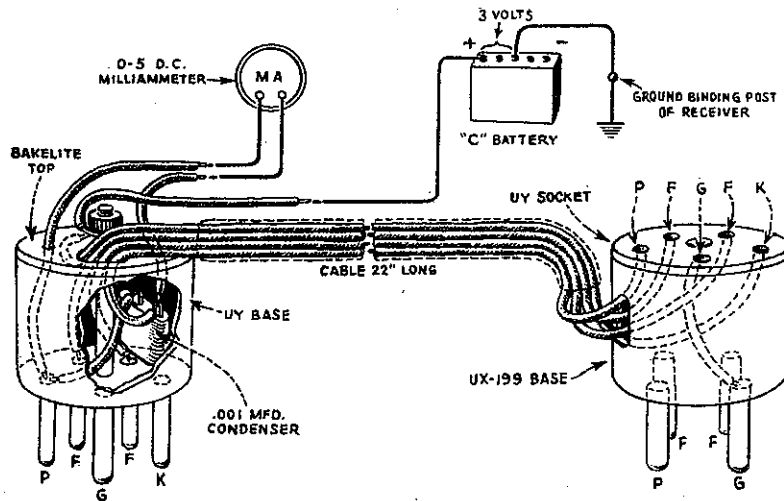
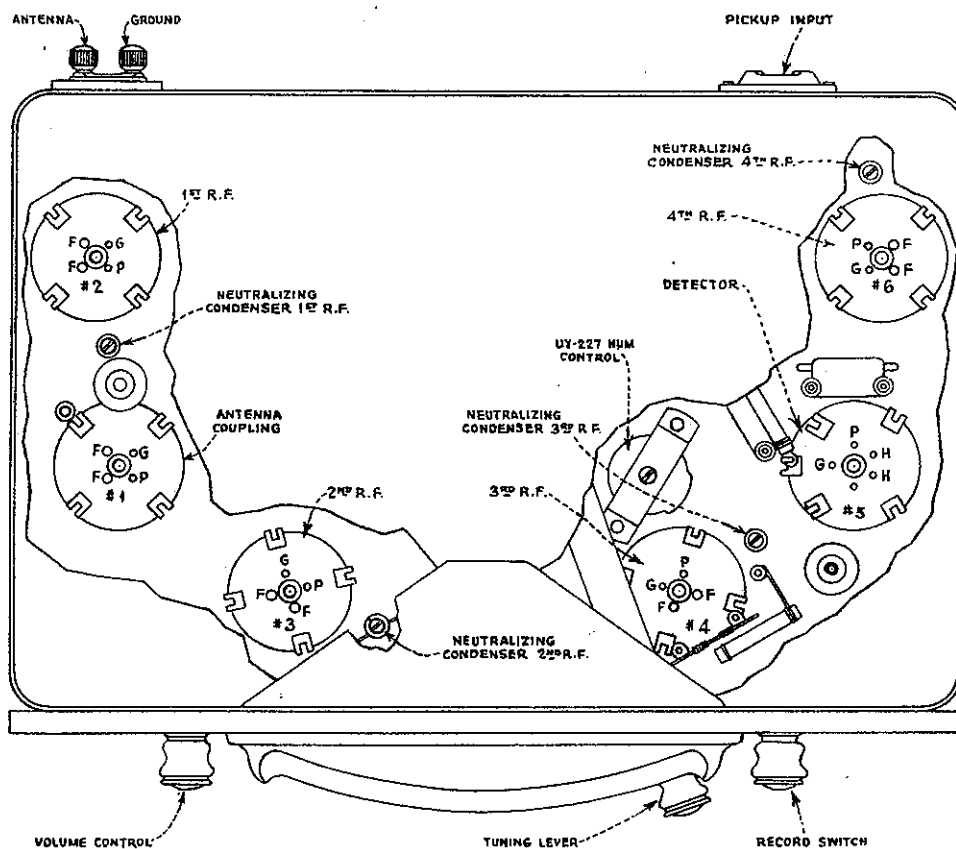
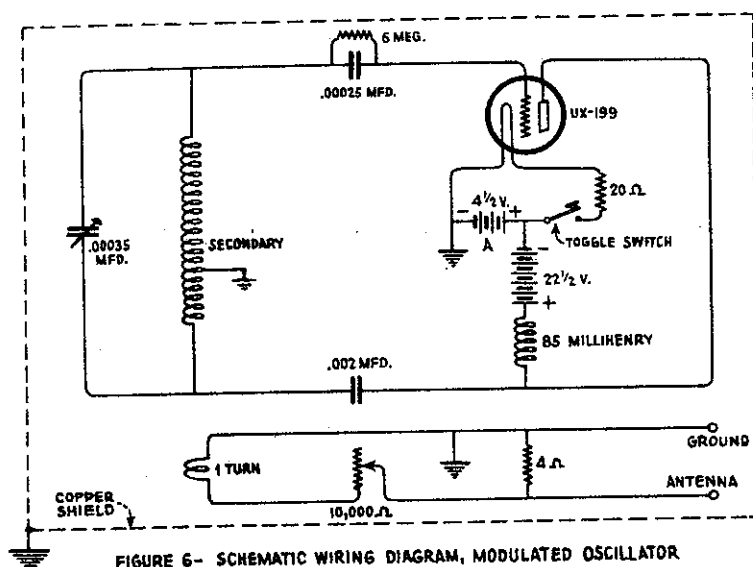

FIGURE 4 - CIRCUIT FOR TUBE VOLTMETER
FIGURE 5 - TOP VIEW OF RADIO, SHOWING RADIOTRON SOCKETS
FIGURE 6- SCHEMATIC WIRING DIAGRAM, MODULATED OSCILLATOR
Lack of Reproduction—Preliminary Tests. After it has been definitely determined that the trouble is not due to a faulty tube, antenna or ground, place the instrument in operation with the transfer switch in the "record" position. Note that all tubes are lighted, and that all cables are connected. In the combination models, play a record in the usual manner with the volume control advanced to maximum. On the radio models without Electrola, connect two wires to the terminals of a dry cell or to the 1.5 volt terminals of a "C" battery. Touch these wires across the two pin jack terminals marked "Phono," and note any click in the reproducer when this is done. If the record reproduction is correct, or if there is a noticeable click when the pickup pin jack terminals are tested in this manner, the trouble must lie in the radio set, and reference should be made to subject "Lack of Reproduction—Radio," following. If there is no record reproduction, then the trouble lies in the loudspeaker or power amplifier unit. It is recommended that a tube voltmeter, such as shown in Figure 4, and a Weston or Jewell test box be used for isolating trouble in the radio set.
- c. Remove the tube in socket No. 1, Figure 5, (coupling stage), place the UX adapter in this socket with the UX-227 in the socket of the adapter. Note the meter reading when all connections are made in accordance with Figure 4 and no station is being received.
- d. Place the UX adapter in socket No. 2, Figure 5, (1st r-f), and note a slight increased meter reading when a powerful local station is tuned in. Note: If such a broadcast signal is not available, a modulated oscillator, such as shown in Figure 6, can be used.